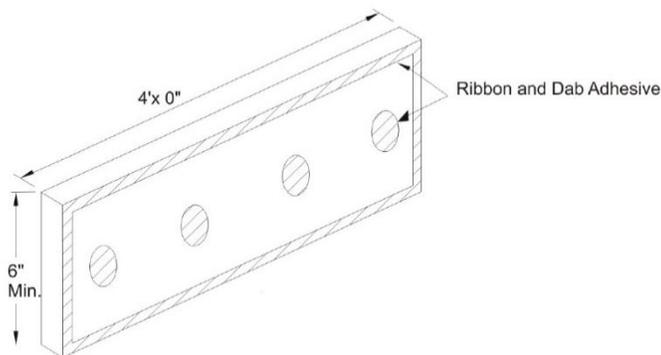

Figure 7
- 8.3.9. Tops of walls, sills of continuous windows and other horizontal system terminations are terminated using 152 mm x 305 mm x 1.2 m (6 in x 12 in x 48 in) closure blocks. These are adhered to Backstop NT using a ribbon and dab adhesive pattern as shown in the Figure 7.